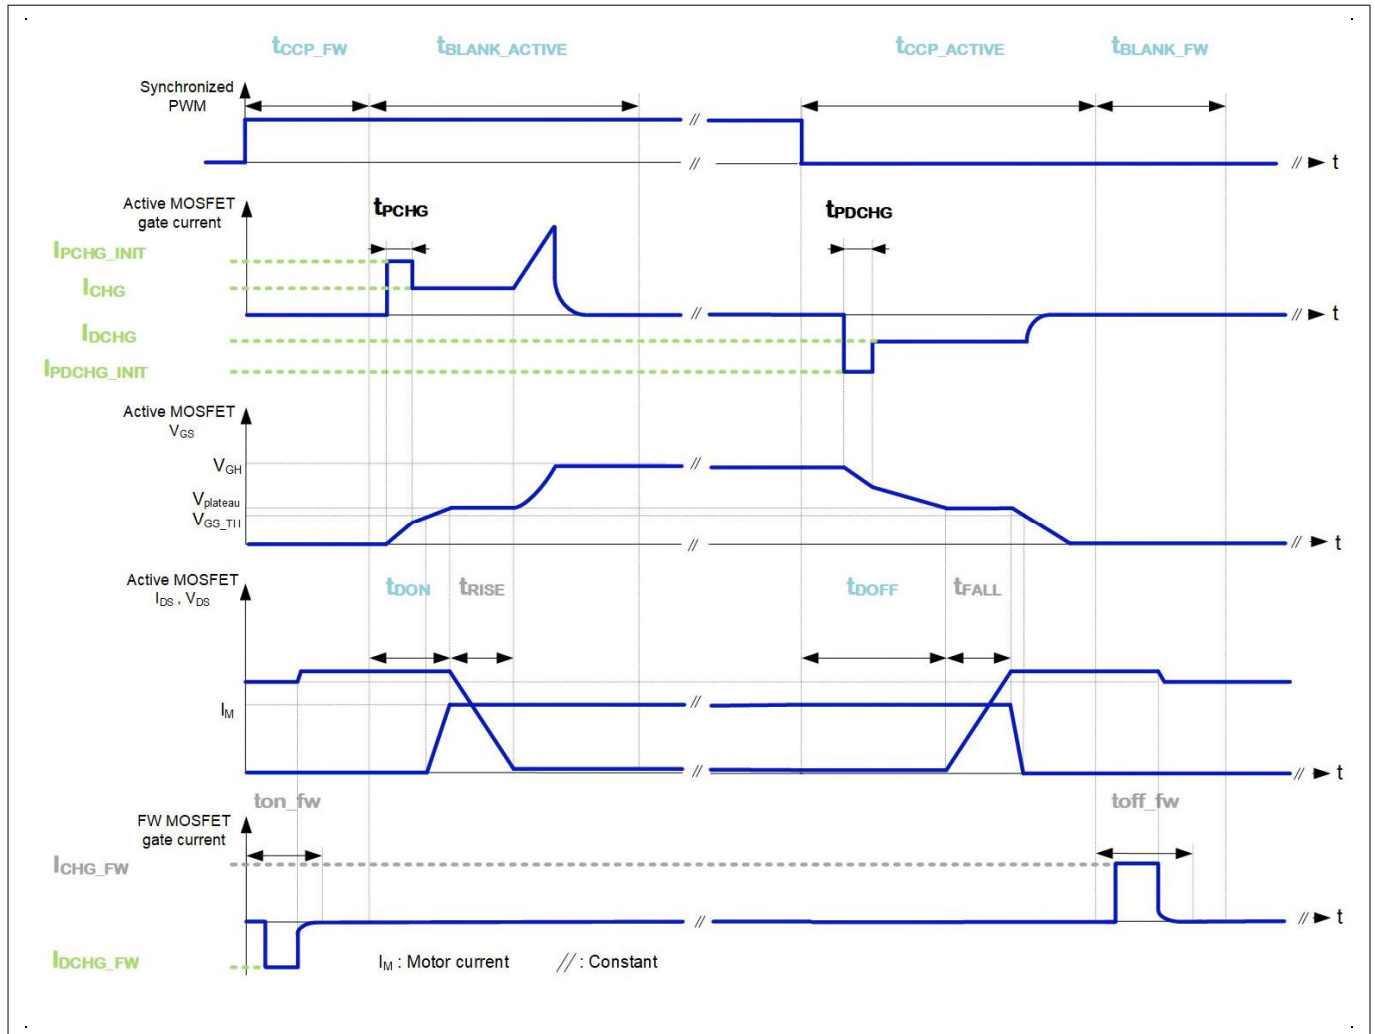

Figure 13 Switching times and timings definition
Figure 13 shows the switching times, the cross-current protection time and blank time of the active and FW MOSFETs during PWM operation (the control scheme of the active MOSFET represented on Figure 13 corresponds to AGC = 1 and AGC = 2).
- t_{rise_target} is the target rise time of the active MOSFET. This parameter is defined as the duration of the V_{ds} slope at the turn-on of the active MOSFET (Refer to Figure 13).
- t_{fall_target} is the target fall time of the active MOSFET. This parameter is defined as the duration of the V_{ds} slope at the turn-off of the active MOSFET (Refer to Figure 13).